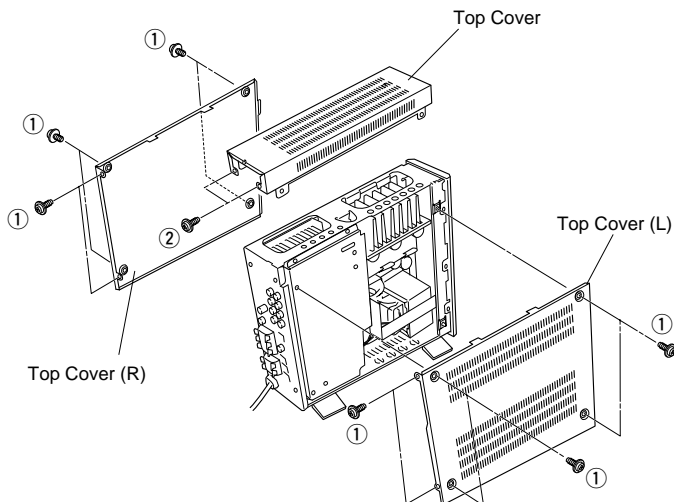

Fig. 1
Remove 14 screws (① and ②) and then remove the Top Covers in Fig. 1.